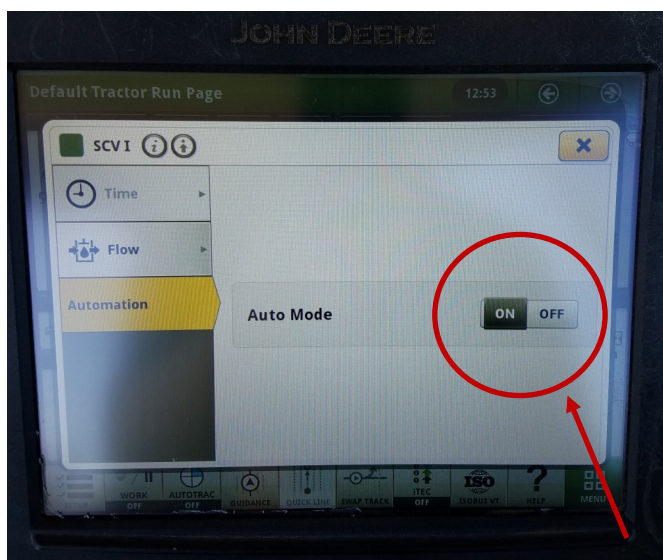

Figure 7-44:
4. Make sure “AUTO MODE” is on. See Figure 7-44.